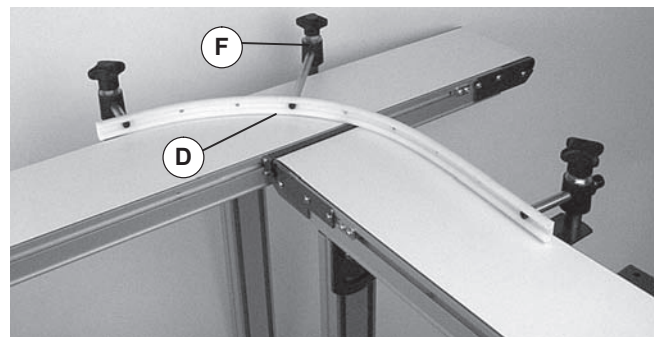

Figure 7
8. To stabilize guide (Figure 7, item D), repeat steps 3 through 7 to install additional guide mount(s) (F), as required.